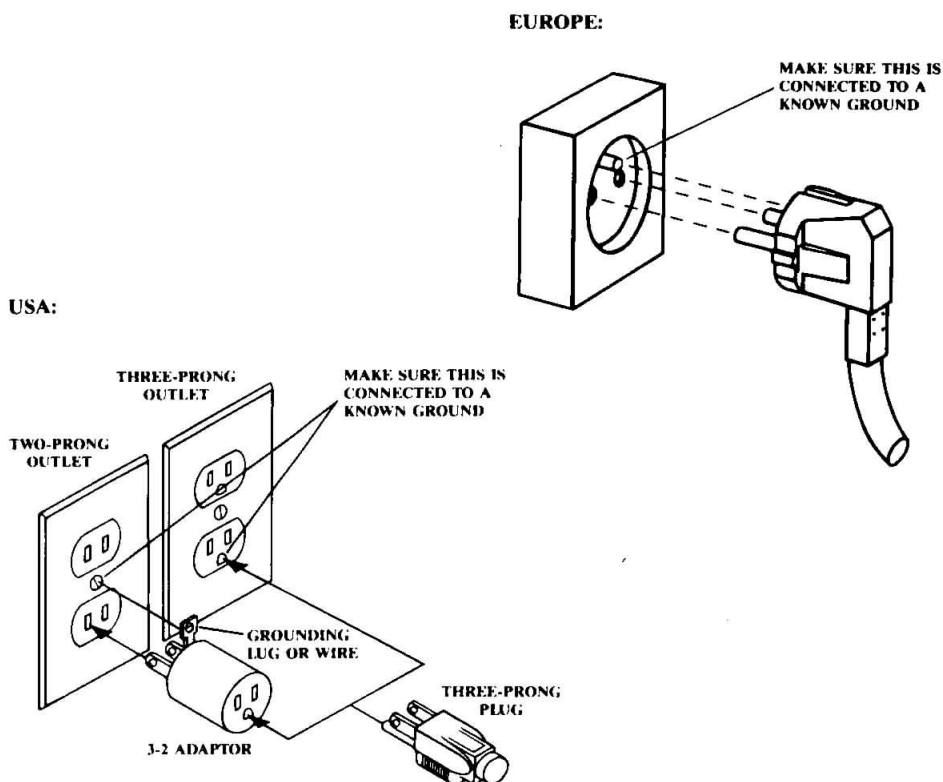
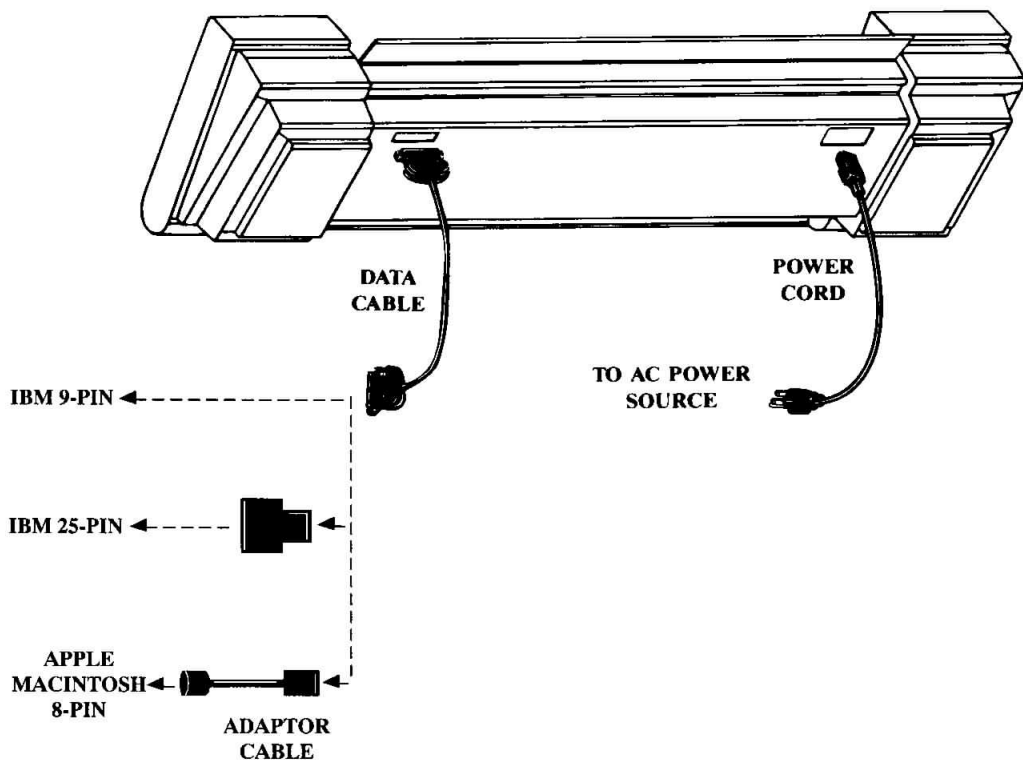

FIGURE 1-3. GROUND CONNECTION
FIGURE 1-11. DATA CABLE CONNECTION
- Connect the power cord to the bottom of the plotter and to the power source. See Figure 1-11. The plotter's ground circuitry protects you from electrical shock. However, this protection is effective only if the ac outlet is properly grounded to earth. If the plotter is connected to a two-contact wall outlet, a 3/2 adaptor with grounding lug/wire may be used. This type of connection is illustrated in Figure 1-3. Be sure to read the safety instructions in the front of this manual before operating the plotter.
- If using the Houston Instrument Modular Serial Cable Kit (part number 414-183), connect its 25-pin connector to the data connector on the bottom of the plotter. See Figure 1-11. Connect the other end of the cable to your computer as follows: